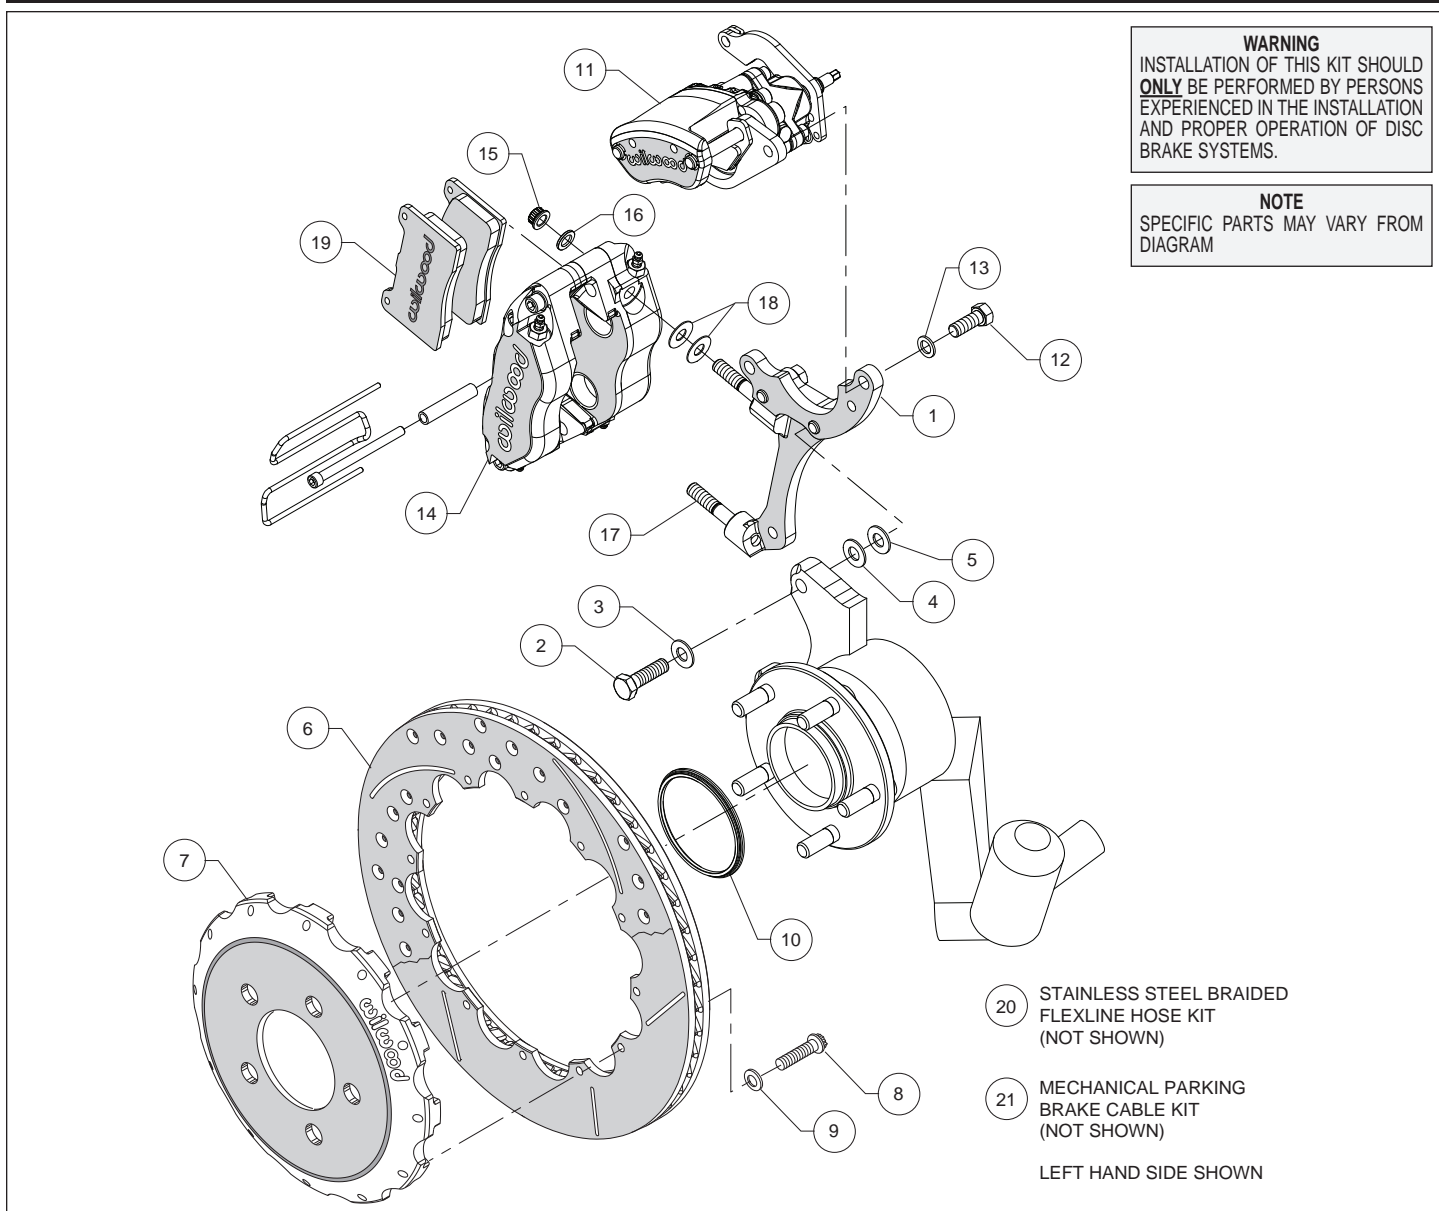
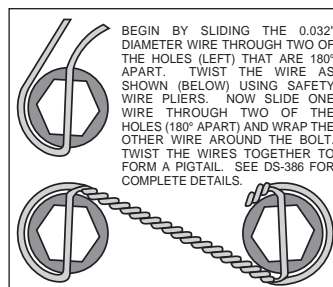

Figure 1. Typical Installation Configuration
Figure 4. Safety Wire Diagram
Assembly Instructions (numbers in parenthesis refer to the parts list and Figure 1 on the preceding pages):
- The caliper mount bracket (1) should initially be installed with clean, dry threads on the mounting bolts. Orient the bracket as shown in Figure 1, and Photo 1, and install using bolts (2) and washers (3). Initially place one .030" thick shim (4) on each bolt between the bracket and upright, Figure 1. Temporarily tighten the mounting bolts. **NOTE:** The bracket must fit squarely against the mount bosses on the upright. Inspect for interference from casting irregularities, machining ridges, burrs, etc. Later, after the caliper alignment has been checked, the mount bolts will be secured using red *Loctite*® 271.
- Orient the rotor (6) and the hat (7) as shown in Figure 1 and Photo 2. Attach rotor to hat using bolts (8) and washers (9). Using an alternating sequence, apply red *Loctite*® 271 to the threads, and torque to 155 **in-lbs**. For an added measure of security, the bolts may be safety wired using standard 0.032 inch diameter stainless steel safety wire as shown in Figure 4. Please refer to Wilwood's data sheet DS-386 (available at www.wilwood.com/Pdf/DataSheets/ds386.pdf) for complete safety wire installation instructions.
- Slide the rotor registration adapter (10) onto the axle register on the hub assembly with the smaller O.D. facing outward, Photo 3. Slide the hat/rotor assembly (6/7) onto the axle hub. **NOTE:** The hat must fit flush against the axle hub flange or excessive rotor run out may result. Install three lug nuts (finger tight) to keep the hat/rotor assembly in place while continuing with the installation, Photo 4.
- Lubricate the caliper mounting studs (17) with lightweight oil. Initially place two .035" thick shims (18) on each stud as shown in Figure 1 and Photo 5. Mount the caliper (14) onto the bracket (1) using lock nuts (15) and washers (16), Figure 1 and Photo 6. Temporarily tighten the lock nuts and view the rotor through the top opening of the caliper. The rotor should be centered in the caliper, Photo 7. If not, adjust by adding or subtracting shims (4 and/or 5) between the bracket and the mounting bosses. Always use the same amount of shims on each of the two mounting bolts. Once the caliper alignment is correct, remove the bracket mounting bolts one at a time, apply red *Loctite*® 271 to the threads, and torque to 35 ft-lb.
- Insert the brake pads (19) into the caliper with the friction material facing the rotor (6), as shown in Figure 1 and Photo 8. Check that the top of the brake pad is flush with the outside diameter of the rotor, Photo 9. If not, adjust by adding or
- Mount the parking brake caliper (11) onto the top section of the caliper mounting bracket (1) using bolts (12) and washers (13), as shown in Figure 1 and Photo 6. Apply red *Loctite*® 271 to bolt threads, and torque to 30 ft-lb.
• **NOTE:** OEM rubber brake hoses generally cannot be adapted to Wilwood calipers. The caliper inlet fitting is a 1/8-27 NPT. Install Wilwood's stainless steel braided flexline hose kit (20), P/N 220-15043 included with this kit. Connect one end to the caliper and the other to the OEM hard line at the bracket as shown in Photo 10. **Carefully route hoses to prevent contact with moving suspension, brake or wheel components.** **NOTE:** Wilwood hose kits are designed for use in many different vehicle applications and it is the installer's responsibility to properly route and ensure adequate clearance and retention for brake hose components.